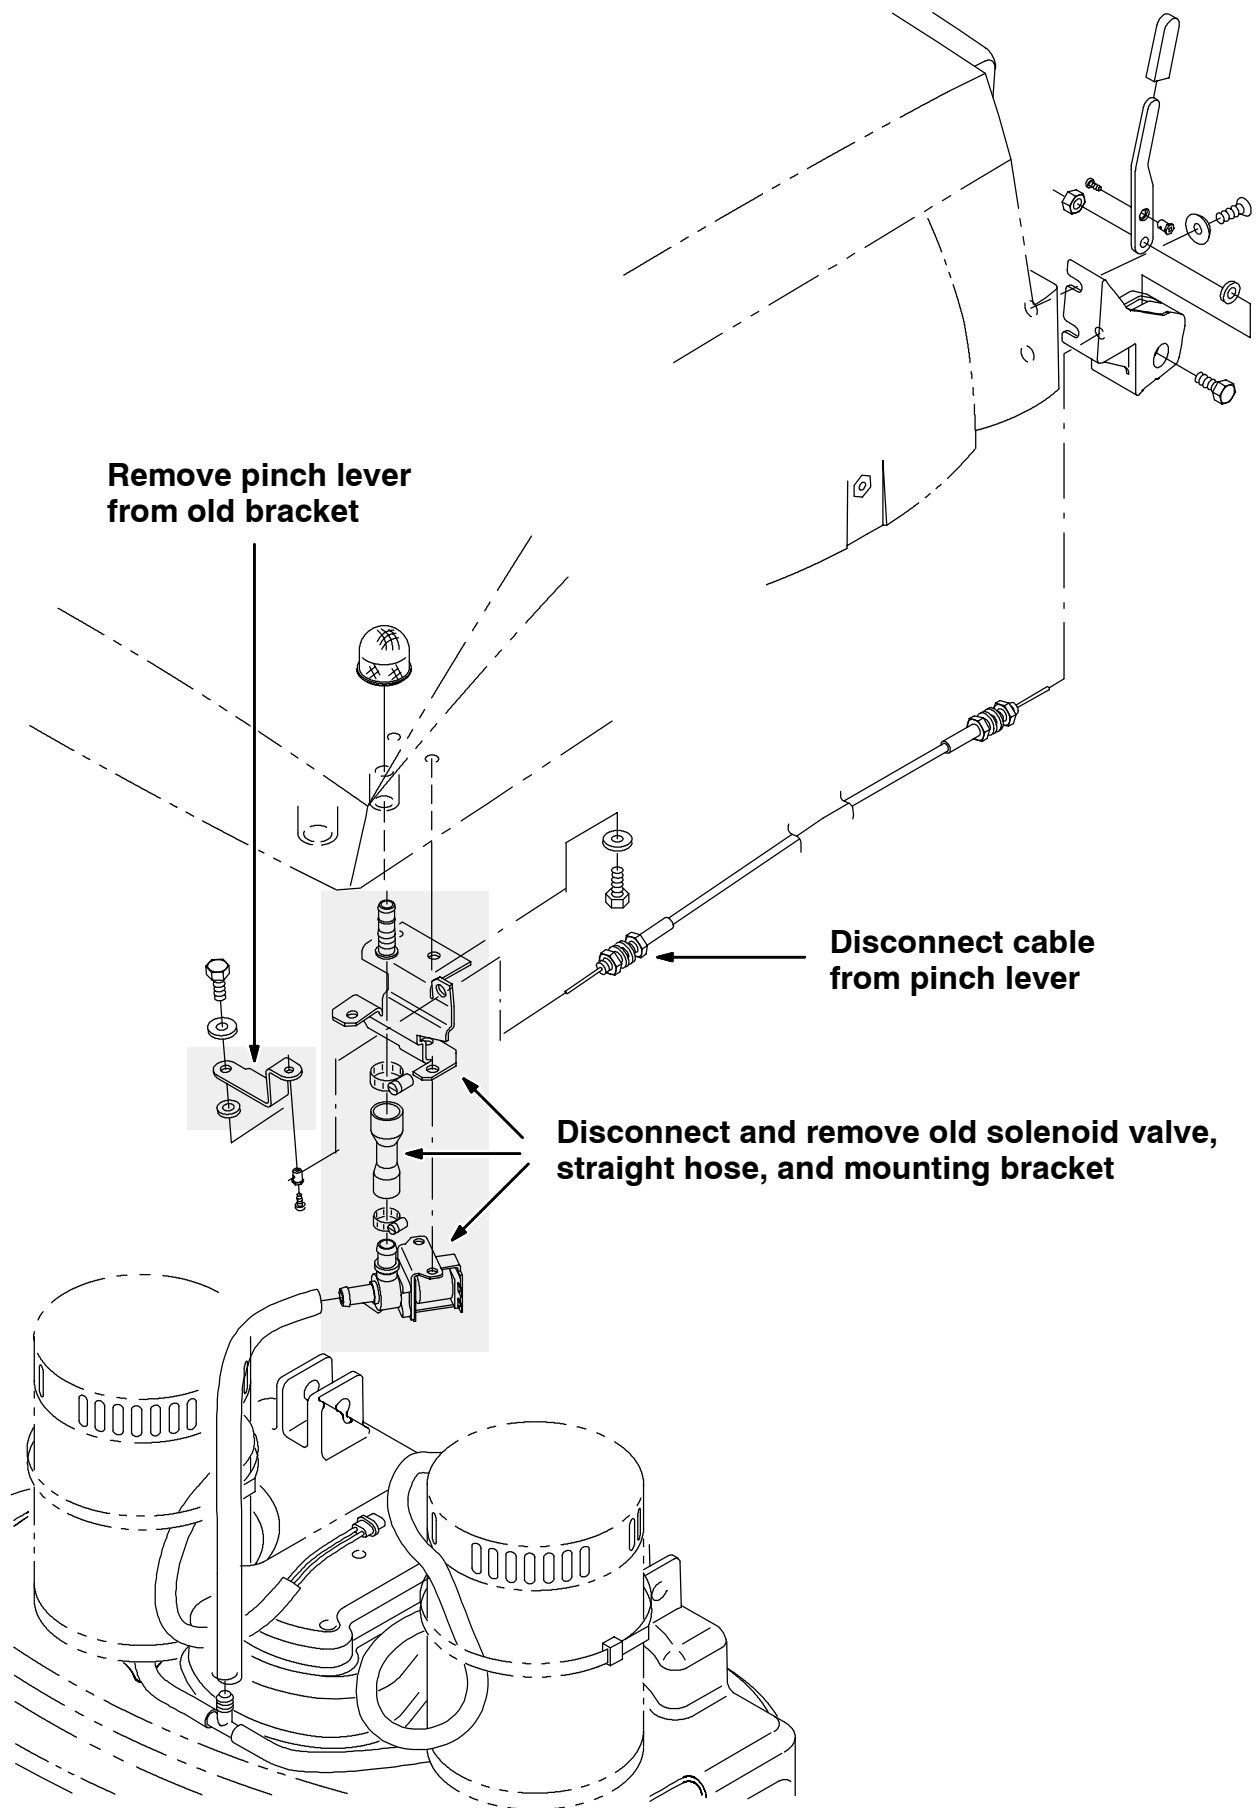

FIG. 1 - Old Solution Control Group, 5700
(Refer to FIG. 1 thru 4)
1. Disconnect and remove the front PVC hose from the solenoid valve and T-fitting mounted to the top of the scrub head. (Refer to FIG. 1)
5. Remove and discard the old solenoid valve. (Refer to FIG. 1)
6. Remove the old valve mounting bracket from the machine. Set the mounting hardware aside. (Refer to FIG. 1)